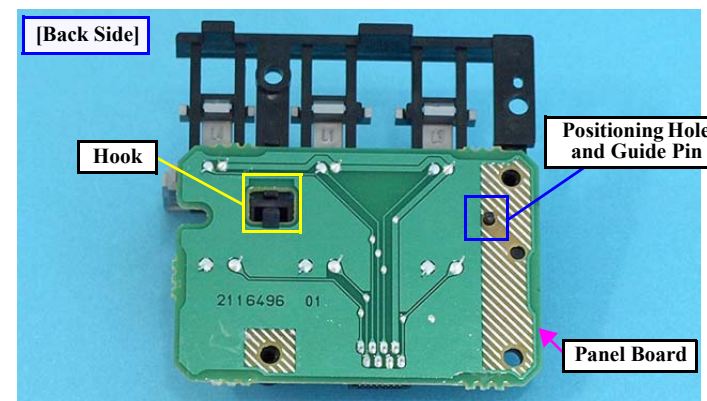

Figure 4-122. Removing the Panel Board / Buttons (3)
- When installing the Panel Board, match the guide pin with the positioning hole shown in Fig.4-122.